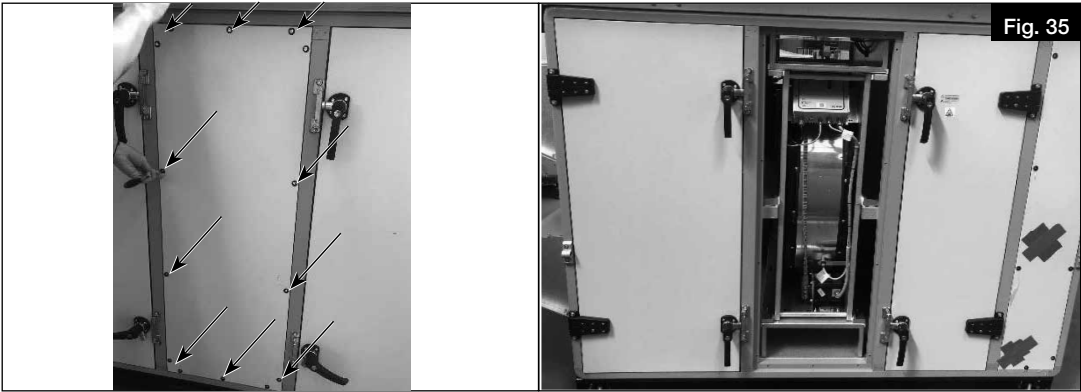

Fig. 35
1. Unscrew and open service panels (see Fig. 35).